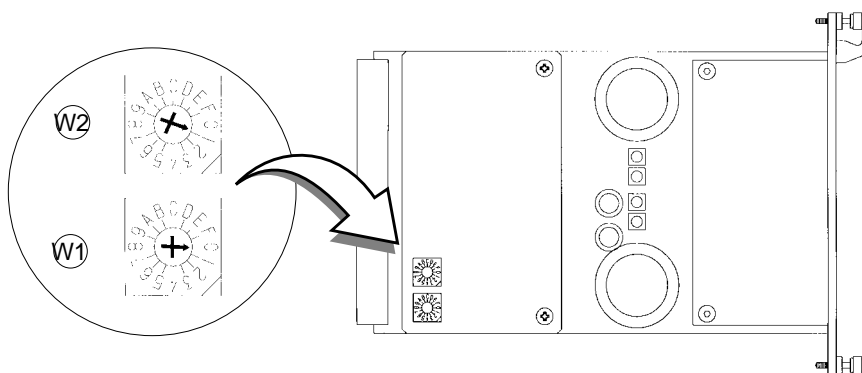

Fig. 36
- 5) loosen the four screws (W) securing the module (it is not necessary to remove them) (fig. 36).
- 6) slide the module from the rack and replace with a new one after positioning the commutators (W1) and (W2) (fig. 36).
- 7) secure the new module with the four screws (W) and re-connect wires 2/3/4 and plug 1.
N.B.: the 1st ST2DRV module (X and Y axes motors) and the 2nd ST2DRV module (Z and A axes motors - spindle) are interchangeable. Remember to position the selection commutators (W1) and (W2) (fig. 36) according to the motors connected to the module.